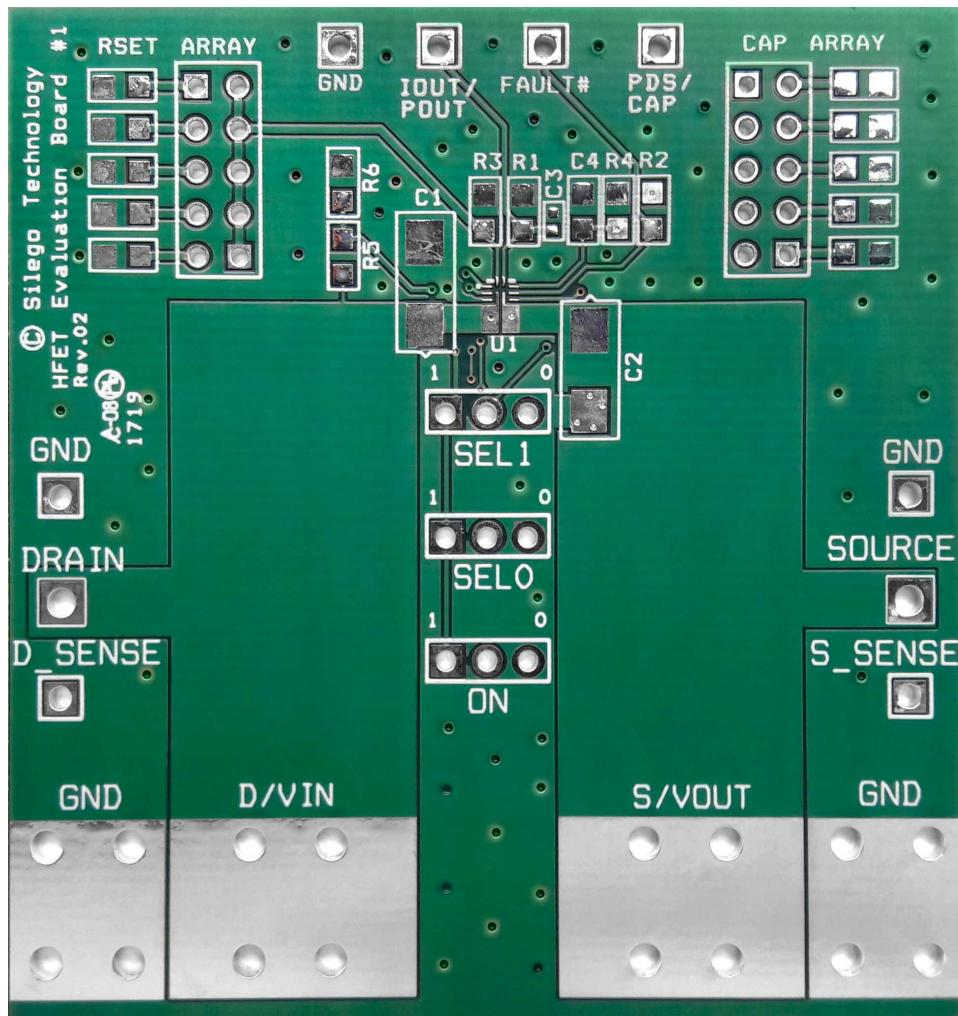

Figure 43. SLG59H1019V Evaluation Board
1. Since the VIN and VOUT pins dissipate most of the heat generated during high-load current operation, it is highly recommended to make power traces as short, direct, and wide as possible. A good practice is to make power traces with absolute minimum widths of 15 mils (0.381 mm) per Ampere. A representative layout, shown in Figure 43, illustrates proper techniques for heat to transfer as efficiently as possible out of the device;
A High Voltage GreenFET Evaluation Board for SLG59H1019V is designed according to the statements above and is illustrated on Figure 43. Please note that evaluation board has D_Sense and S_Sense pads. They cannot carry high currents and dedicated only for $R_{DS\text{ON}}$ evaluation.